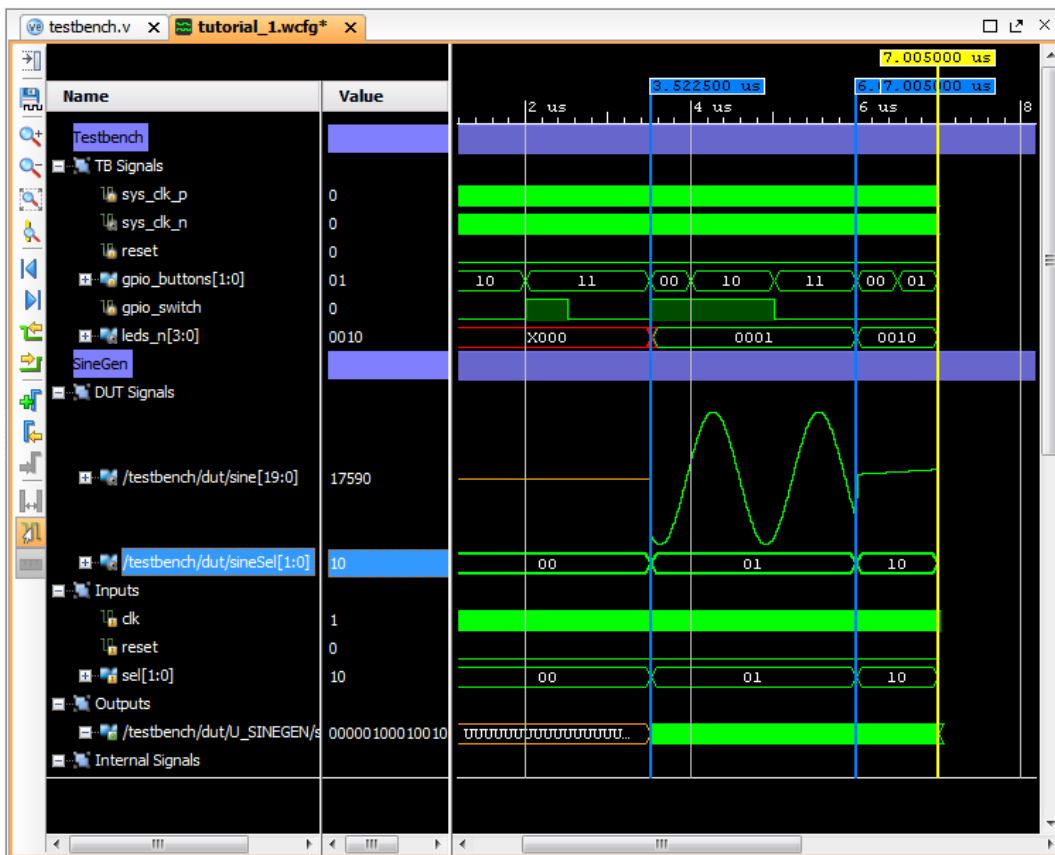

Figure 24: Using Markers
1. In the Waveform window select the `/testbench/dut/sineSel[1:0]` signal, as shown in Figure 24.
With markers identifying the transitions on `sineSel`, the Waveform window should look similar to Figure 24. As previously observed, the low frequency signals are incorrect when the `sinSel` signal value is 00.